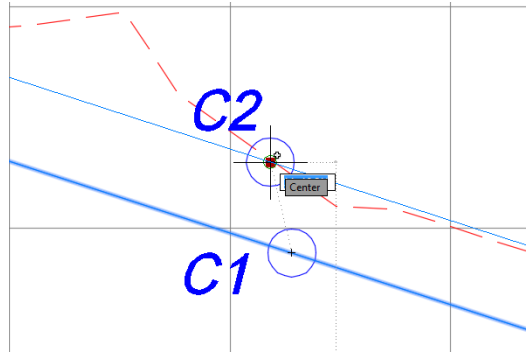

FIGURE 7.5 Moving a tangent midpoint grip
- Click the square grip at the center of circle C1, and move it to the center of circle C2, as shown in Figure 7.5.